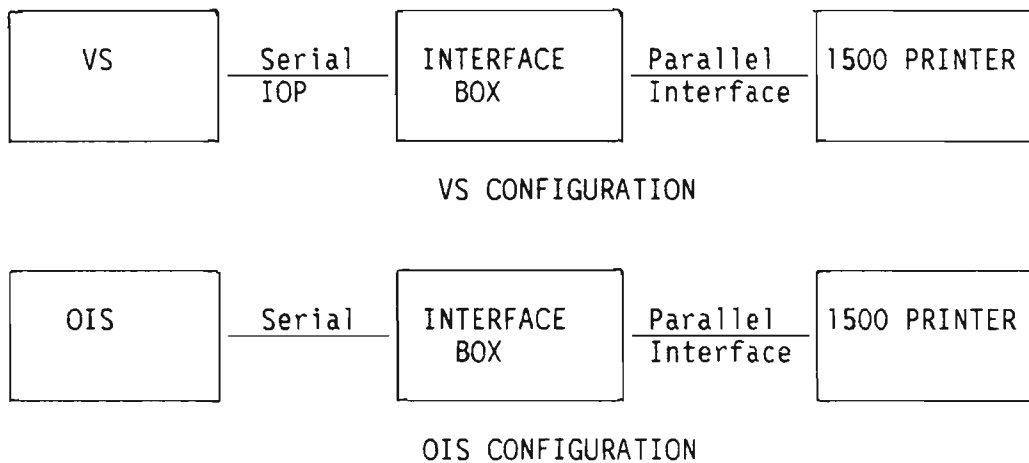

Figure 7. Connection Diagrams
1. On the 7446 board, install jumpers as follows (See Figure 7):